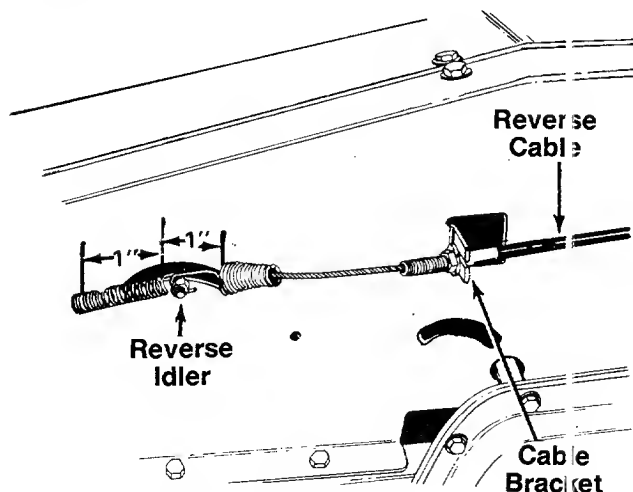

FIGURE 15.
7. With the reverse drive clutch lever in the neutral (N) position, adjust the reverse cable as follows. Adjust the hex nuts at the cable bracket on the handle panel so that the cable is tight, and the bolt on the reverse idler pulley is in the center of the slot (approximately 1" from either end of the slot) as shown in figure 15.
8. Secure the cables to the right hand handle with two cable ties (L), one near the top and one near the bottom of handle. Trim excess ends of cable ties.